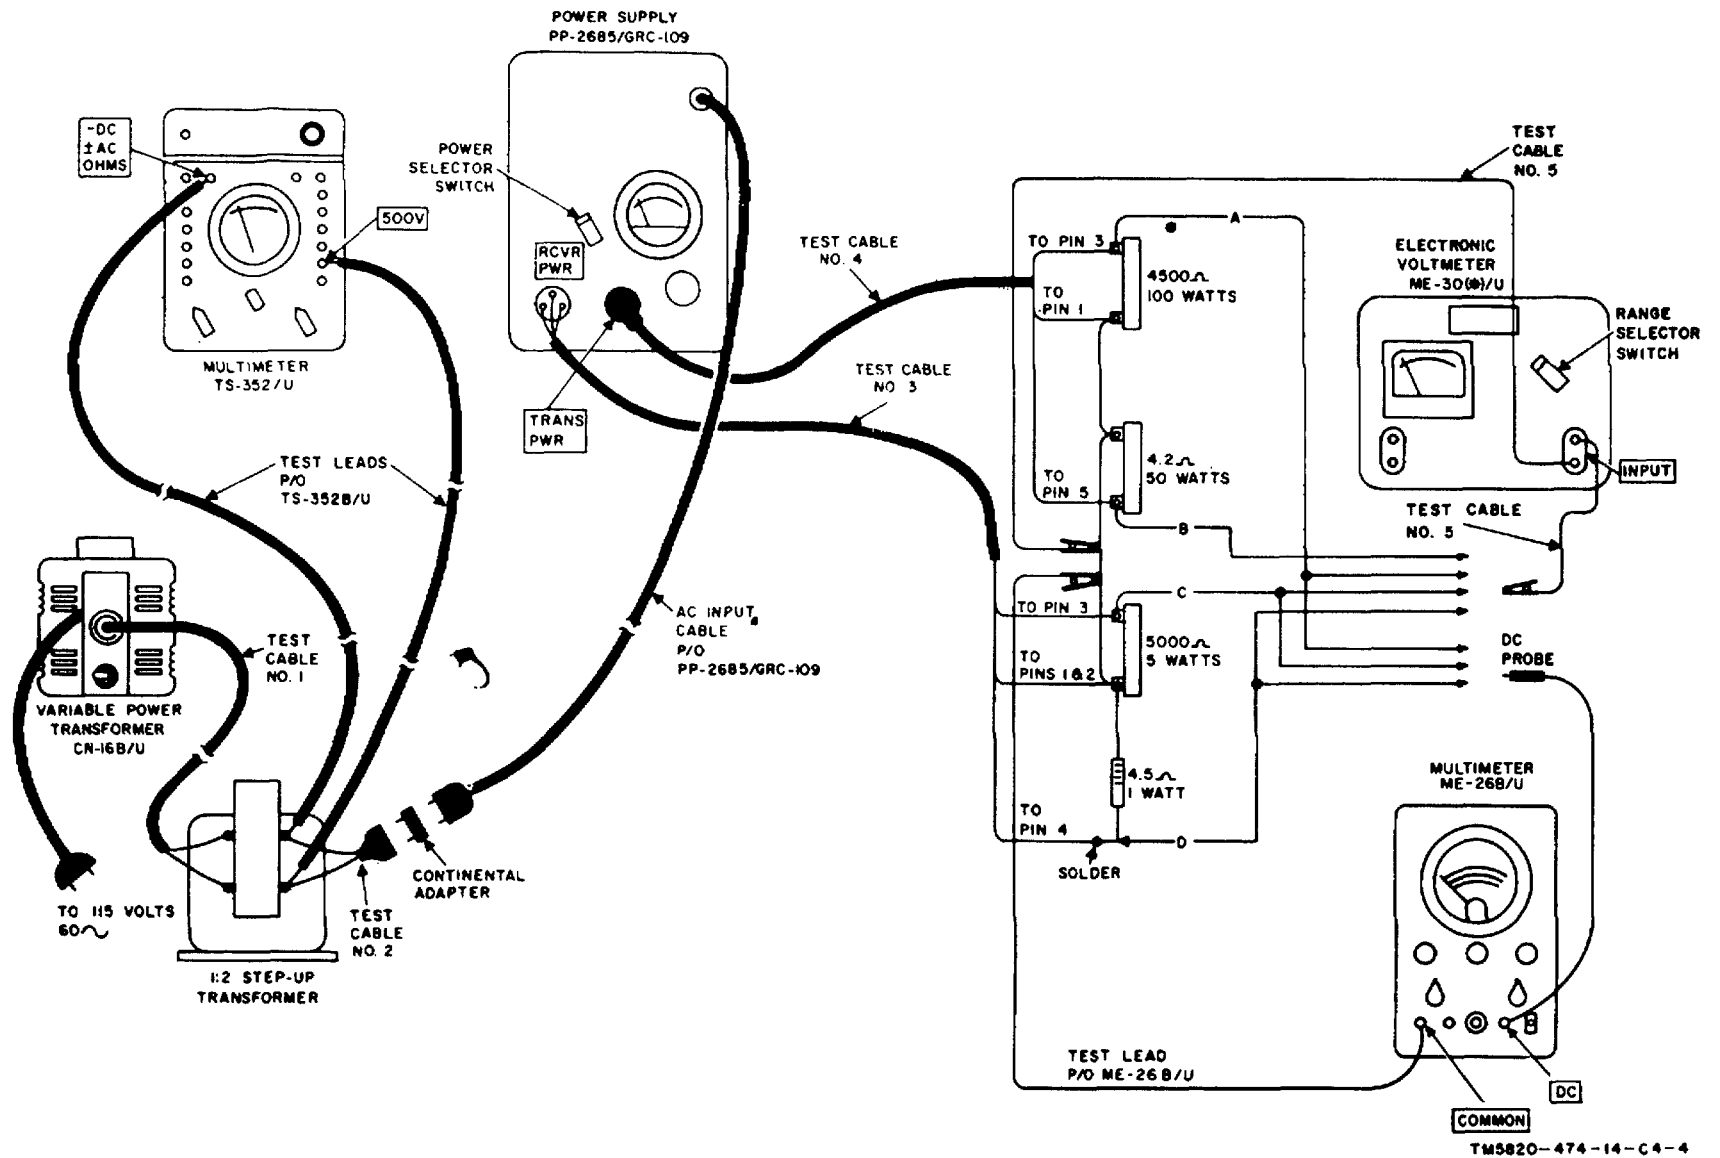

Figure 54. Power Supply PP-2685/GRC-109, output voltage and ripple tests.
b. Test Connections and Conditions. Connect the equipment as shown in figure 54. Turn on the test equipment and allow 15 minutes to warm up before proceeding. Be sure the voltage selector dial on the CN-16(*)/U is set to zero.
| 1 | TS-352(*)/U: FUNCTION: AC VOLTS ME-30(*)/U: Range selector switch: 10V. TS-505 (*)/U: FUNCTION: +D. C. RANGE: 1000V | PP-2685/GRC-109: Power selector switch: 220 | a. Connect the test leads from the ME-30(*)/U and the TS-505(*)/U to agree with connection A, figure 54. b. Adjust the voltage selector dial on the CN-16(*)/U for an indication of 220 volts on the TS-352(*)/U. c. Note the indication on the ME-30(*)/U. d. Note the indication on the TS-605(*)/U e. Adjust the voltage selector dial on the CN-16(*)/U for an indication of 75 volts on the TS-352(*)/U. f. Turn the power selector switch on the PP-2685/GRC-109 to 75. g. Note the indication on the ME-30(*)/U h. Note the indication on the TS505(*)/U i. Turn the power selector switch on the PP-2685/GRC-109 to 110. j. Adjust the voltage selector dial on the CN-16(*)/U for an indication of 110 volts on the TS-352(*)/U. k. Note the indication on the ME-30(*)/U l. Note the indication on the TS-505(*)/U | a. None. b. None. c. ME-30(*)/U indication is less than 10 volts. d. TS-505(*)/U indication 450 volts ± 25 . e. None. f. None. g. ME-30(*)/U indication is less than 10 volts. h. TS-505(*)/U Indication is 450 volts ± 25 . i. None. j. None. k. ME-30(*)/U indication is less than 10 volts. l. TS-505(*)/U indication is 450 volts ± 25 . |
| 2 | As last indicated | As last indicated | a. Connect the test lead from the ME-30(*)/U to agree with connection B, figure 54. b. Note the indication on the ME-930()/U c. Adjust the voltage selector dial on the CN-16(*)/U for an indication of 75 volts on the TS-352()/U. d. Turn the power selector switch on the PP-2685/GRC-109 to 75. e. Note the indication on the ME-30(*)/U f. Turn the power selector switch on the PP-2685/GRC-109 to 220. g. Adjust the voltage selector dial on the CN-16(*)/U for an indication of 220 volts on the TS-352(*)/U. h. Record the indication on the ME-30()/U | a. None. b. ME-30SO)/U indication is 6.3 volts ± 0.4 . c. None. d. None. e. ME-30(*)/U Indication is 6.3 volt ± 0.4 . f. None. g. None. h. ME-30(*)/U indication is 6.3 volts ± 0.4 . |
| 3 | As last indicated | As last indicated | a. Connect the test leads from the ME-30(*)/U and the TS-505(*)/U to agree with connection C, figure 54. b. Turn the range selector switch on the ME-30(*)/U to 0.1 volt. c. Turn the RANGE switch on the TS-505(*)/U to 200 V. d. Note the indication on the ME-30(*)/U e. Note the indication on the TS-505()/U f. Adjust the voltage selector dial on the CN-16(*)/U for an indication of 75 volts on the TS-352(*)/U. g. Turn the power selector switch on the PP-2685/GRC-109 to 75. h. Note the indication on the ME-30(*)/U i. Note the indication on the TS-505()/U j. Turn the power selector switch on the PP-2685/GRC-109 to 110. k. Adjust the voltage selector dial on the CN-16(*)/U for an indication of 110 volts on the TS-352(*)/U. l. Note the indication on the ME-30(*)/U m. Note the indication on the TS-505(*)/U | a. None. b. None. c. None. d. ME-30(*)/U indication is less than 0.04 volt. e. TS-505(*)/U indication is 100 volts ± 10 f. None. g. None. h. ME-30(*)/U indication is less than 0.04 volts. i. TS-505(*)/U indication is 100 volts ± 10 . j. None. k. None. l. ME-30S)/U indication is less than 0.04 volt. m. TS-505(*)/U Indication is 100 volts ± 10 . |
| 4 | As last indicated | As last indicated | <p>a. Connect the test leads from the ME-30(*)/U and the TS-505(*)/U to agree with connection D, figure 54.</p> <p>b. Turn the RANGE switch on the TS-505(*)/U to 2 V.</p> <p>c. Note the indication on the ME-30(*)/U</p> <p>d. Note the Indication on the TS-505(*)/U</p> <p>e. Adjust the voltage selector dial on the CN-16(*)/U for an Indication of 75 volts on the TS-352(*)/U.</p> <p>f. Turn the power selector switch on the PP-2685/GRC-109 to 75.</p> <p>g. Note the indication on the ME-30(*)/U</p> <p>h. Note the Indication on the TS-505(*)/U</p> <p>i. Turn the power selector switch on the PP-2685/GRC-109 to 220V.</p> <p>j. Adjust the voltage selector dial on the CN-16(*)/U for an indication M 220 volts on the TS-352(*)/U.</p> <p>k. Record the indication on the ME-30(*)/U</p> <p>l. Record the indication on the TS-505(*)/U</p> | <p>a. None.</p> <p>b. None.</p> <p>c. ME-30(*)/U indication is less than 0.04 volt.</p> <p>d. TS-505(*)/U Indication is 1.35 volts \pm 0.1.</p> <p>e. None.</p> <p>f. None,</p> <p>g. ME-30(*)/U indication is less than 0.04 volt.</p> <p>h. TS-505(*)/U indication 1.35 volts \pm 0.1.</p> <p>i. None.</p> <p>j. None.</p> <p>k. ME-30(*)/U indication is less than 0.04 volt</p> <p>l. TS-505(*)/U indication is 1.35 volts \pm 0.1.</p> |